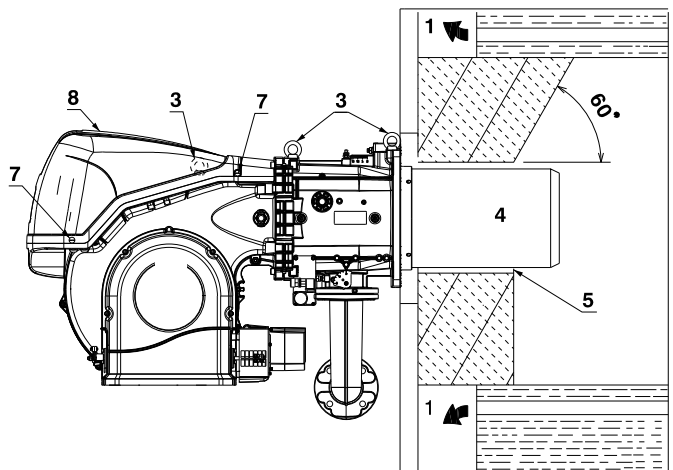

Fig. 16
For boilers with front flue passes 1)(Fig. 16) or flame inversion chamber, a protection in refractory material 5) must be inserted between the boiler fettling 2) and the blast tube 4).
For boilers with a water-cooled front piece, a refractory lining 2)-5)(Fig. 16) is not necessary, unless expressly requested by the boiler manufacturer.
Prepare a suitable lifting system using the rings 3) (Fig. 16), after removing the fixing screws 7) of the casing 8).
- Fit the heat insulation supplied onto the blast tube 4)(Fig. 16).